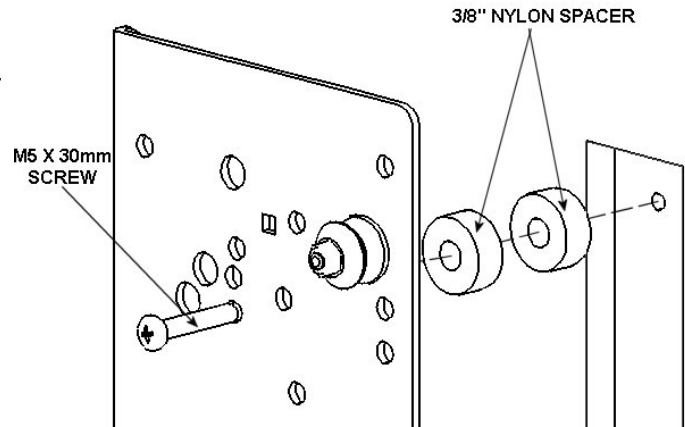
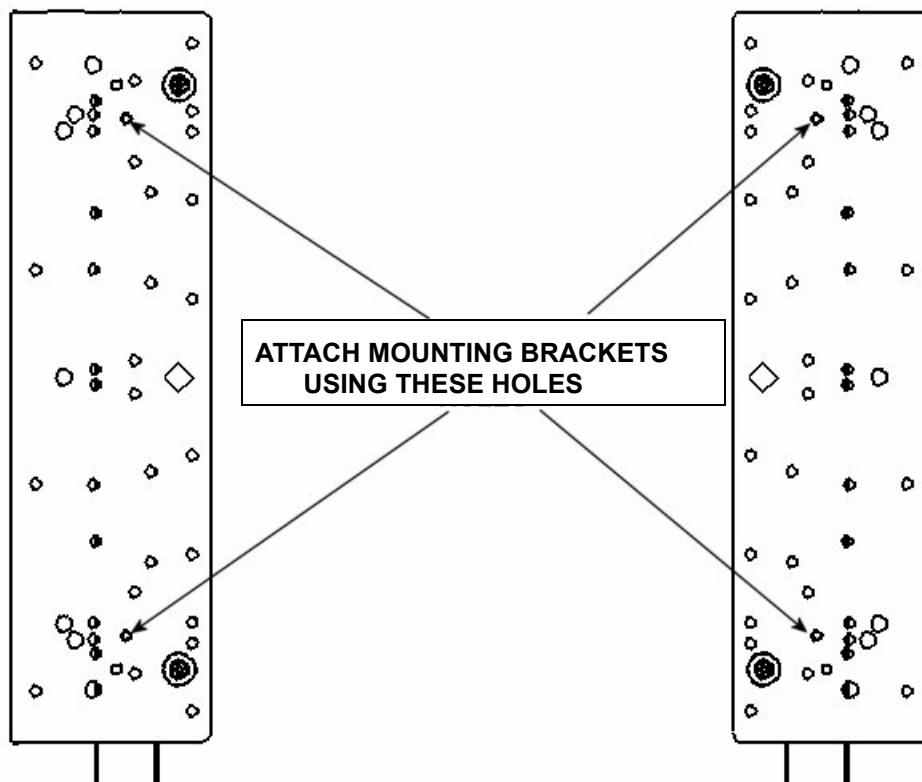

Figure 20. Spacer Installation for Group 9
Figure 21. Bracket Attachment for Group 9
4. Place the interface brackets over the Nylon spacers (see Figure 20 and Figure 21).
6. Using the hardware in the parts bag labeled C, attach the interface brackets to your display in the proper holes in each interface bracket (See Figure 20 and Figure 21). Do not overtighten the mounting screws.